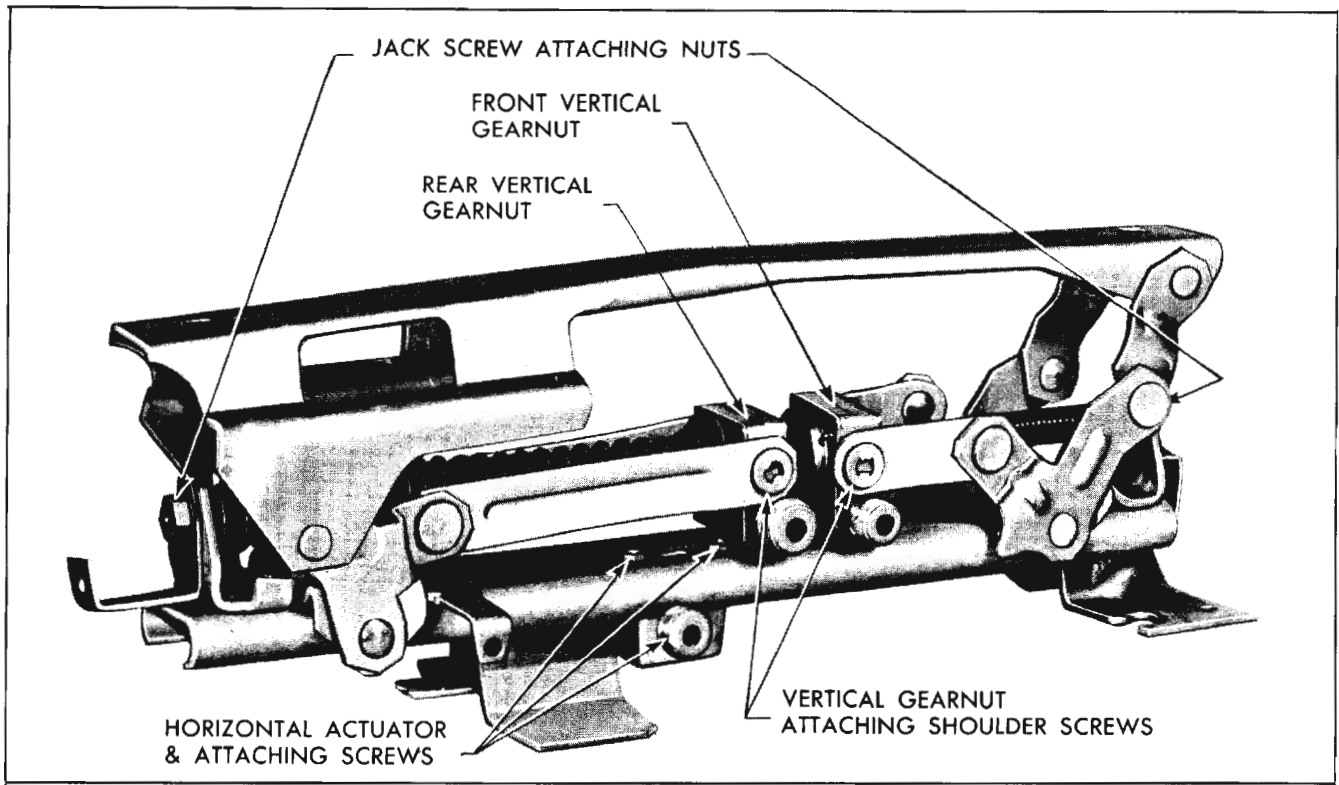

Fig. 16-84 Six-Way Seat Adjuster
3. Using clutch-type screwdriver, remove shoulder screws securing linkages to vertical gear nuts. (Fig. 16-84)